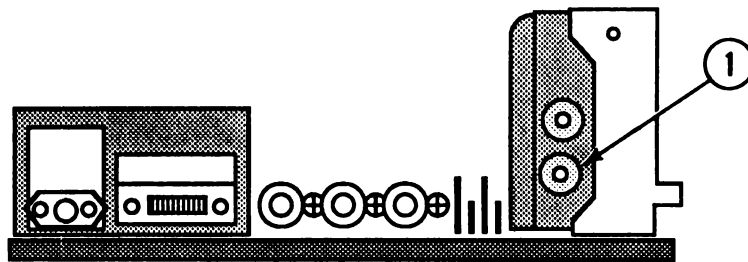

FIGURE 8
7. Turn the SCREEN control (Figure 8, #1) fully counterclockwise, then turn it back until a dim horizontal line just appears on the monitor display.